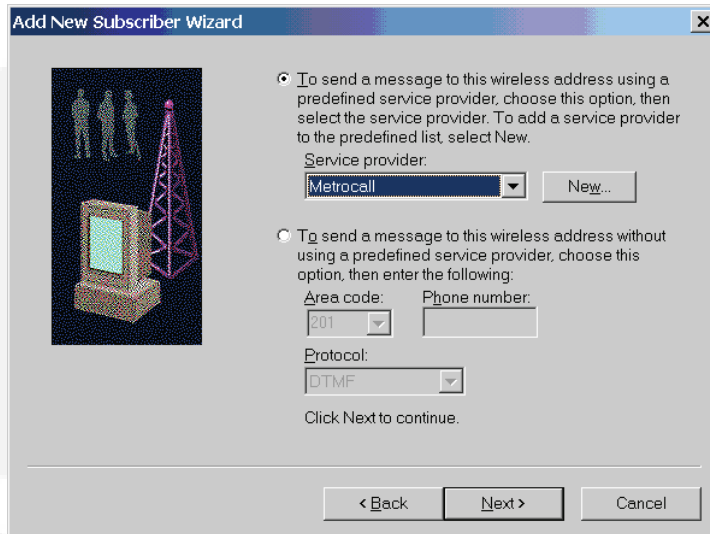

FIGURE 15-21. SERVICE PROVIDER SETUP
5. Select the upper button for sending a message *using a predefined service provider...* Figure 15-21.